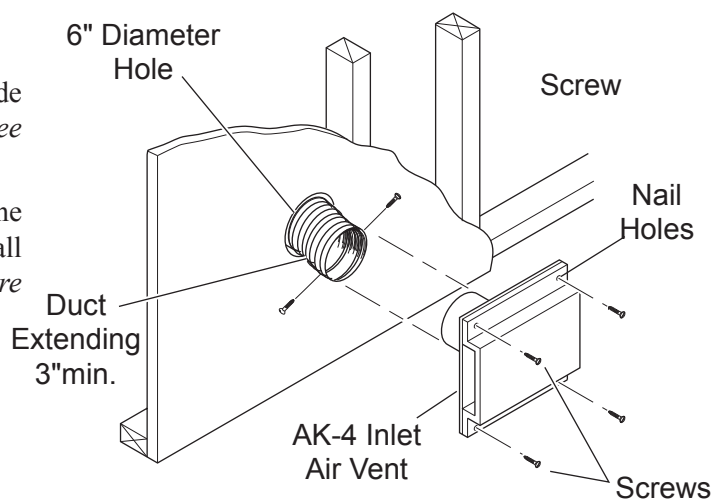

Figure 23 - Combustion Air Assembly for Model No. AK-4
5. Cut a 6-inch diameter opening for model AK-4 in the outside wall covering where the outside vent is to be located. *See Figure 23.*